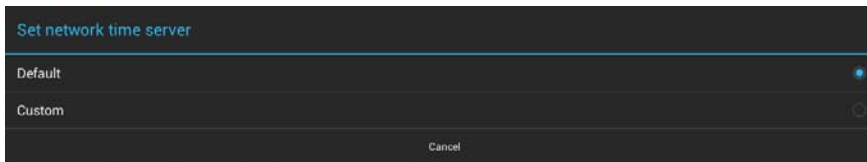

FIG. 80 Set network time server window
1. Press **Set network time server** to open the *Set network time server* window (FIG. 80):